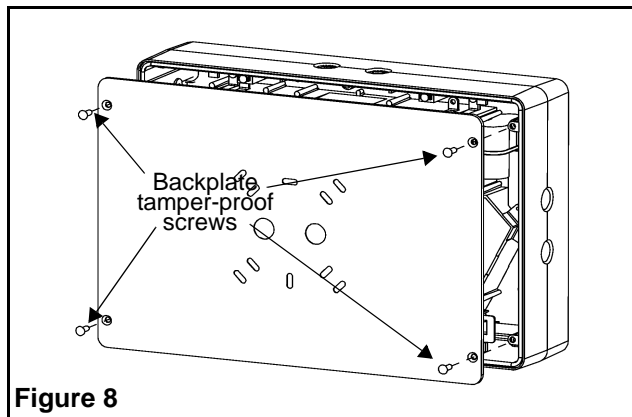

Figure 8
2. Remove backplate by unscrewing the four tamper-proof screws holding the backplate to the frame (see fig. 8)